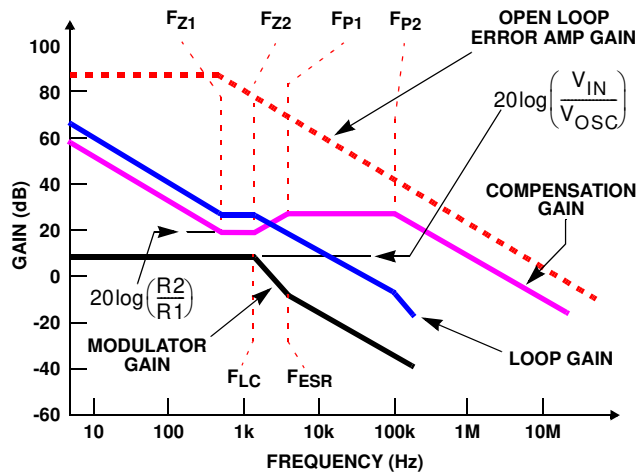

FIGURE 8. ASYMPTOTIC BODE PLOT OF CONVERTER GAIN
Figure 8 shows an asymptotic plot of the DC/DC converter's gain vs frequency. The actual Modulator Gain has a high gain peak due to the high Q factor of the output filter and is not shown in Figure 8. Using the above guidelines should give a Compensation Gain similar to the curve plotted. The open loop error amplifier gain bounds the compensation gain. Check the compensation gain at  $F_{P2}$  with the capabilities of the error amplifier. The Closed Loop Gain is constructed on the graph of Figure 8 by adding the Modulator Gain (in dB) to the Compensation Gain (in dB). This is equivalent to multiplying the modulator transfer function to the compensation transfer function and plotting the gain. The compensation gain uses external impedance networks  $Z_{FB}$  and  $Z_{IN}$  to provide a stable, high bandwidth (BW) overall loop. A stable control loop has a gain crossing with -20dB/decade slope and a phase margin greater than 45 degrees. Include worst-case component variations when determining phase margin.